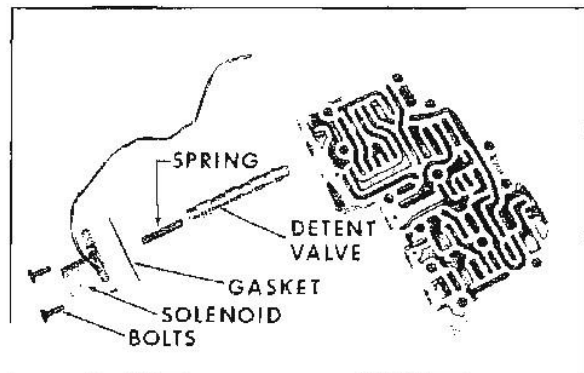

Fig. 7B-45 Downshift Solenoid and Detent Valve - Exploded View
6. Disengage manual control valve link from park lock and range selector inner lever by rotating valve body (Fig. 7B-44).